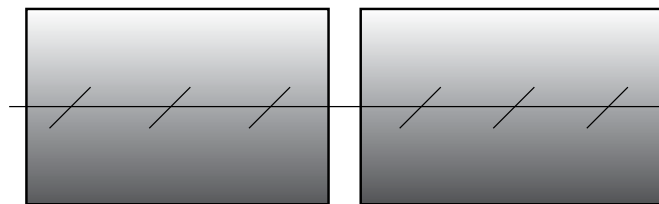

Fig. 6-3
13. Identify and mark the center line on each belt end. This is a reference point for drawing the fingers and for belt alignment once the fingers are cut (Fig. 6-3).